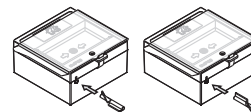

Fig.1
1. Insert the spiral end of the key into the opening on the bottom side of the FD6150 (Fig.1) and press-to-end. The elastic element should be released.
2. Place the flat end of the key into the same opening (fig.1) and press to end. The elastic element should return to its initial position.